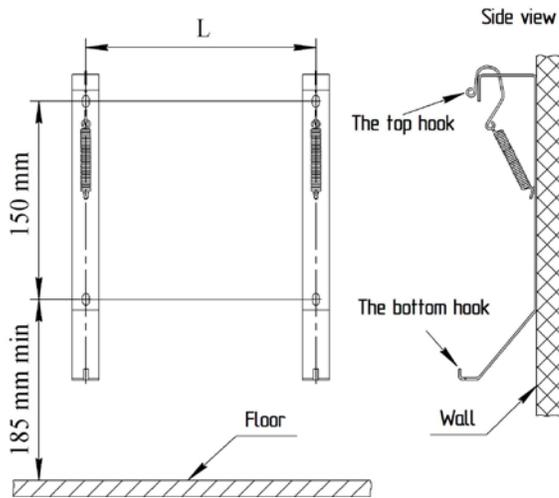

Figure 1
- Execute on a wall a marking for fixing (see fig. 1, table 3);